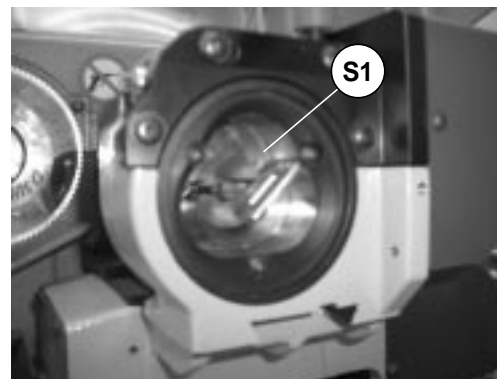

Fig. 54
- 4) Fit the key blank into the rotating clamp (S1) from the front, positioning the square stem over the "V" on the grips diagonally so that the left-hand bit is sloping downwards (fig. 54 and fig. 55).
- 5) Close the mobile clamp jaws slightly, using the T wrench already in the screw (V1), without gripping the key stem; move the rotating clamp (G) towards the tailstock, keeping a minimum safety distance of 10 mm between the rotating clamp jaws and the rear limit of the bit. Secure the rotating clamp in position by means of knob (T1).
- 7) Fit the key blank into the rotating clamp (S1) from the front, positioning the square stem over the "V" on the grips diagonally so that the left-hand bit is sloping downwards (fig. 54 and fig. 55).
- 8) Use the 'T' wrench, already on the screw (V1), to slightly tighten the grips on the rotating clamp, without exerting pressure on the key stem; move the rotating clamp (G) towards the tailstock, keeping a minimum safety distance of 10 mm between the grips on the rotating clamp and the rear end of the bit. Secure the rotating clamp by tightening the knob (T1).